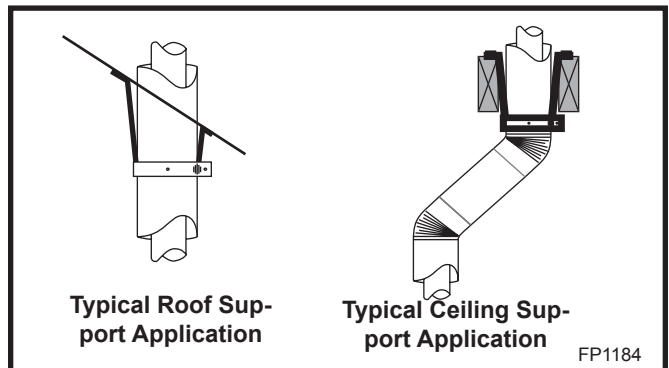
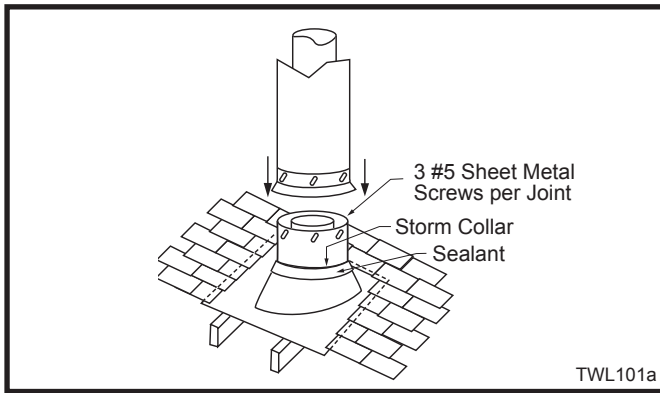

Fig. 32 Venting supports.
Fig. 33 Roof flashing.
- 7DVCS supports offsets. (Fig. 32) This application will require that you first determine the roof pitch and use the appropriate starter kit. (See Venting Components List)
7. Install roof support (Fig. 32) and roof flashing making sure upper flange is below the shingles. (Fig. 33)
8. Install appropriate pipe sections until the venting is above the flashing. (Fig. 33)
9. Install storm collar and seal around the pipe. (Fig. 33)